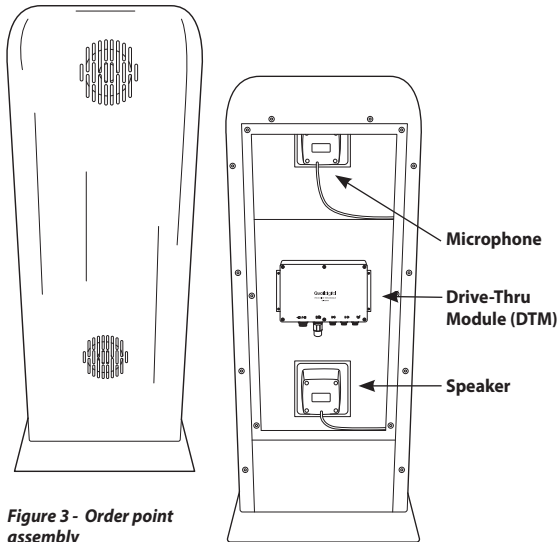

Figure 3 - Order point assembly
Step 3 Remove the microphone (Q-P9MIC) and speaker (Q-P9SPK) from their boxes. The microphone is positioned against the top grill of the order point. Use the silver pre-drilled mounting bracket to fix securely where you can. There should be no gap between the face of the microphone and the grill, and the grill should have as many holes as illustrated in **Figure 3**. If it doesn't, consider drilling more holes to maximise the effectiveness of microphone.
Ensure the DTM is mounted with the cable connections pointing down. Correct orientation in **Figure 3**.